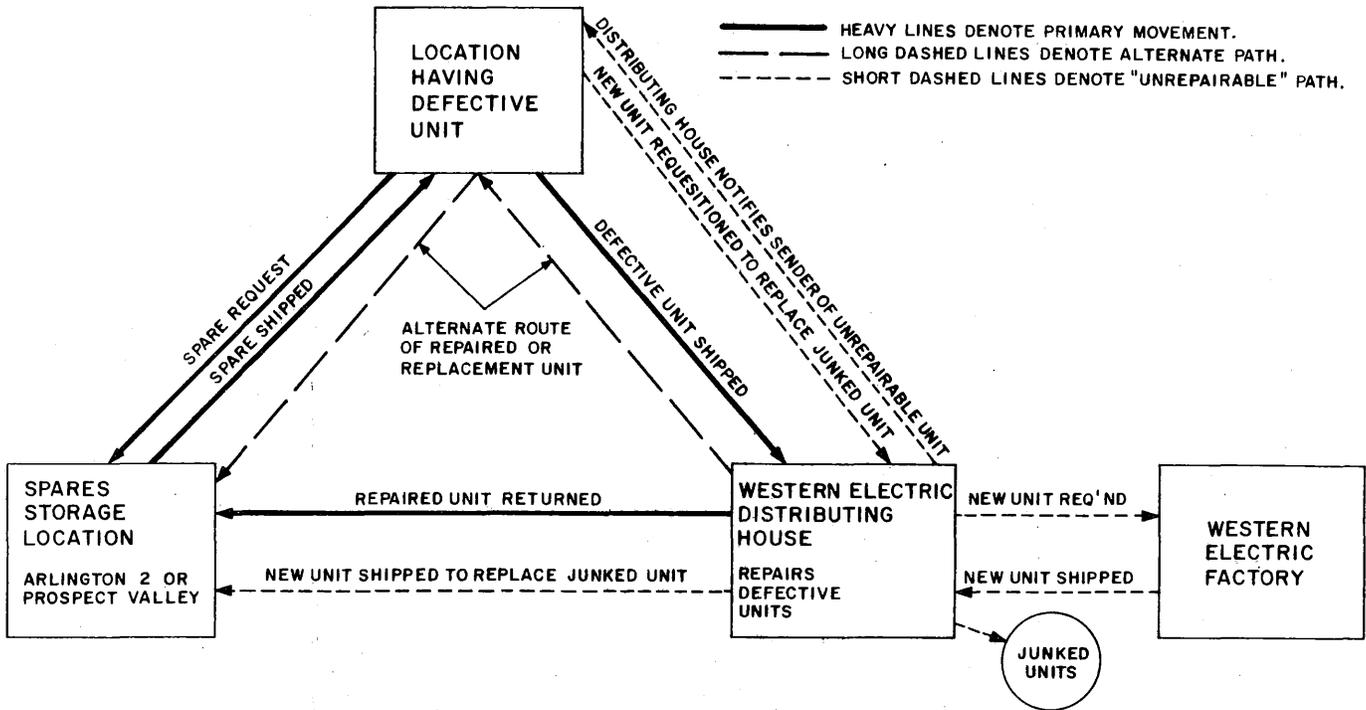

Fig. 1—Replacement Spares Flow Chart
2.05 If the WECO distributing house determines that the defective unit is *not repairable* and must be scrapped, the distributing house will notify the location initially having the defective unit; the location initially having the defective unit should requisition a new replacement unit from WECO. Send a copy of this requisition to the storage location for their information. The new unit should be shipped directly to, or trans-shipped to, the storage location supplying the spare. These activities are summarized in Fig. 1.